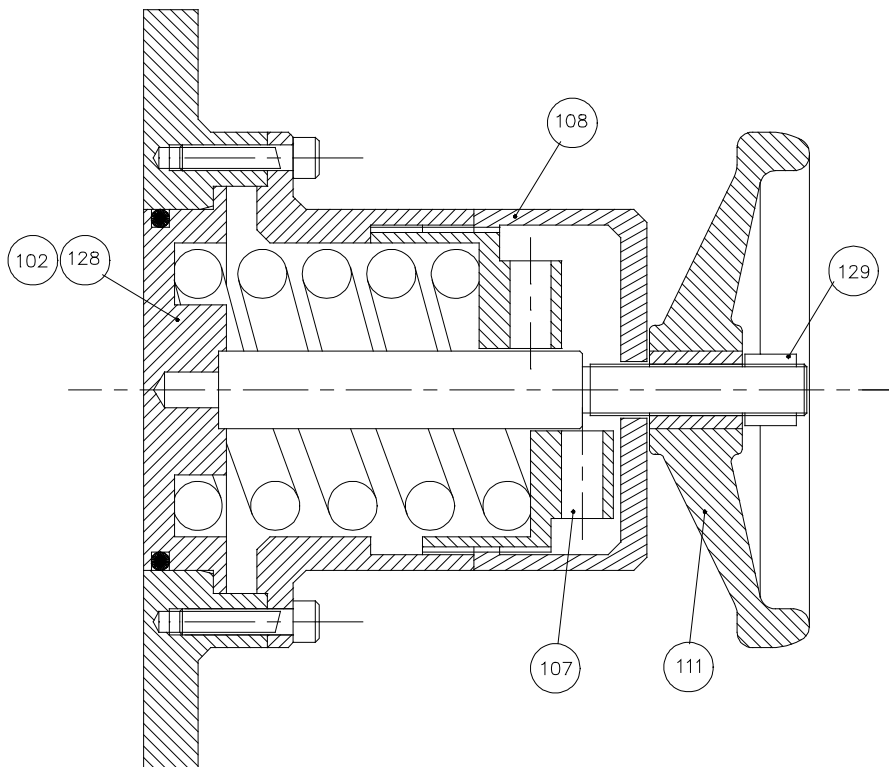

Fig 12 Spring Loaded Integral Pressure Relief Valve with Manual Lift CP10, CP20 and CP30.
Spring Loaded with Manual Lift - see Fig 12.
- Remove cover (108). For integral relief valve with manual lift, see Fig 12; first remove nut (129) and hand wheel (111).
- Reinstall cover (108). For integral relief valve with manual lift, see Fig 12; reinstall hand wheel (111) and nut (129).
For Integral Relief Valve with Manual Lift - see Fig 12.